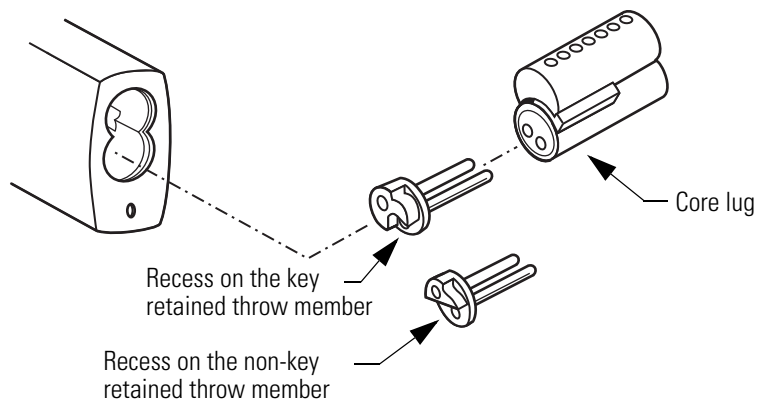

Figure 2.17 Installing the core and throw member
- With the throw member's recess on the same side as the core lug, insert the throw member into the core, as shown in Figure 2.17. With the control key in the core, insert the core with the throw member into the core hole. Turn the control key to the left and remove it.